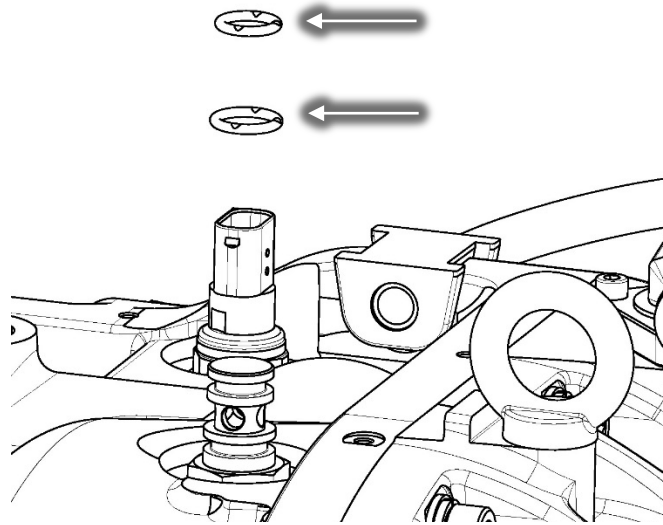

Figure 21 – SCR Manifold Brass Fitting O-ring Removal
30. Remove the two (2) O-rings from the SCR Manifold Return Brass Fitting. Refer to Figure 21 (SCR Manifold Return Brass Fitting O-rings).